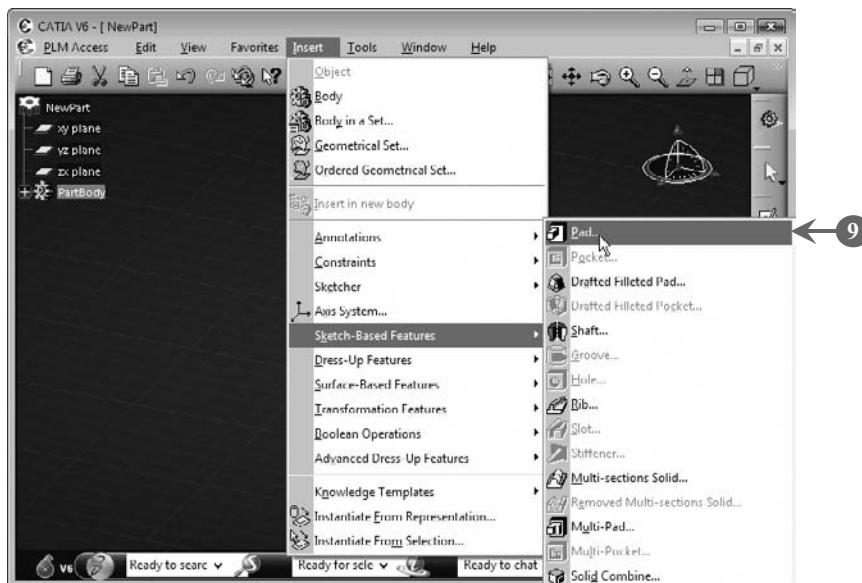

FIGURE 4.27
The Sketcher workbench closes and the Part Design workbench gets displayed (Figure 4.27).
9. Select **Insert > Sketch-Based Features > Pad** on the menu bar to apply the pad feature to the sketch that you have drawn in the Sketcher workbench, as shown in Figure 4.27: